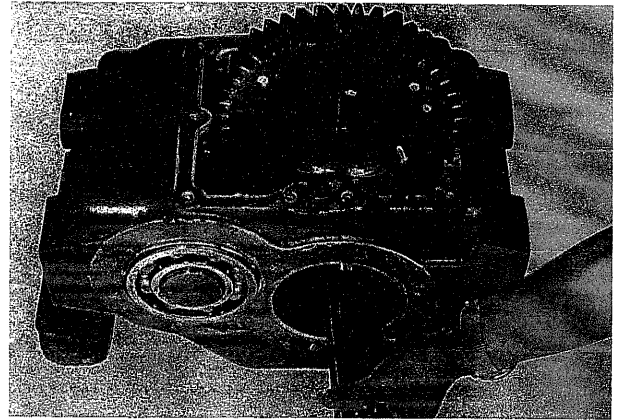

Fig. 48
- (7) Take out shaft and gear from transmission case. (Fig. 48)